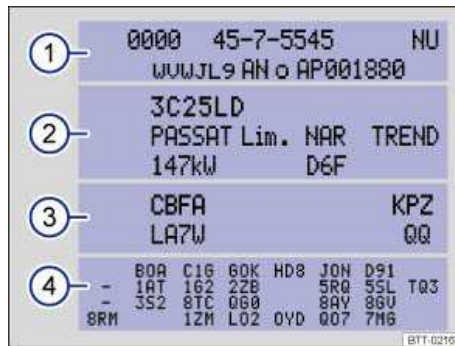

Fig. 20 Vehicle identification label: Shown in the example with engine identification code CBFA 3.
The vehicle identification label ⇒ fig. 20 is affixed to the area of the spare wheel well underneath the luggage compartment floor panel and contains the following information:
- (1) Vehicle identification number (VIN)
- (2) Vehicle type, engine output, and transmission
- (3) Engine and transmission identification codes, paint number, and interior type. In the example, the engine identification code is "CBFA" ⇒ fig. 20.
- (4) Optional equipment and part numbers